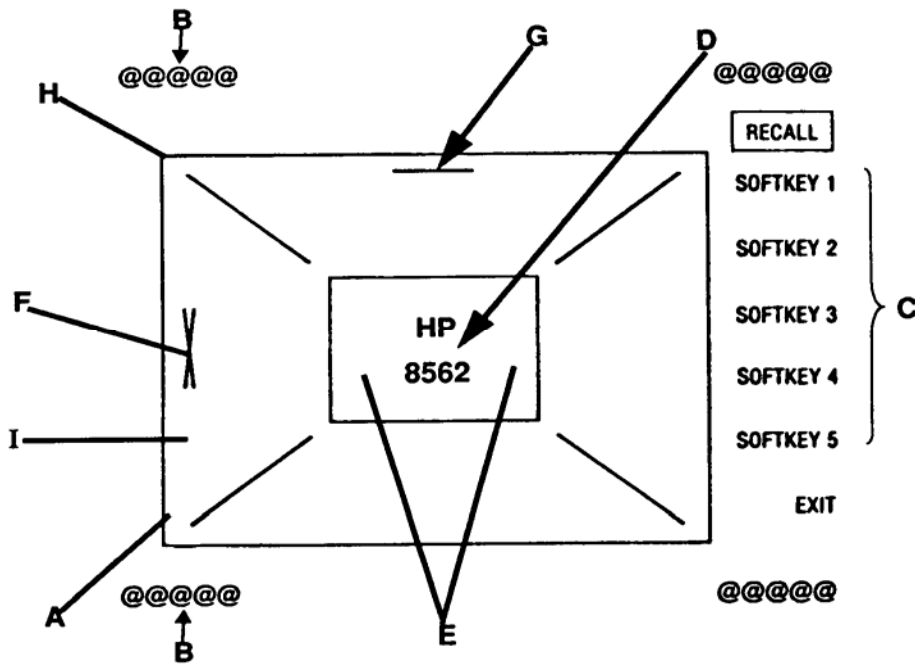

Figure 1. Crt adjustment pattern.
- 2. Refer to C in figure 1 for softkey location.
c. Press TI keys as listed in (1) through (3) below:
- (1) **INSTRUMENT STATE RECALL**
- (2) **[MORE]**
- (3) **[CRT ADJ PATTERN]**
d. Adjust **TRACE ALIGN** (rear panel) until leftmost line of test pattern A (fig. 1) is parallel with crt bezel.
e. Adjust **X POSN** (rear panel) until leftmost @ characters B (fig. 1) and softkey labels C (fig. 1) appear just inside left and right edges of crt bezel.
f. Adjust **Y POSN** (rear panel) until the softkey labels C (fig. 1) align with the appropriate softkeys.